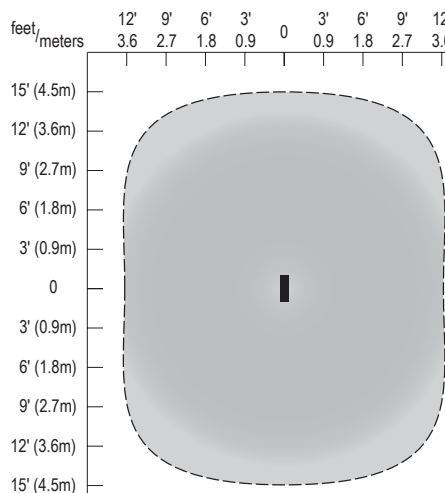

Figure 2. FS-505C coverage.
1. Install the FS-PP as directed in the installation instructions provided with the power pack. Review Figures 2, 3, and 11 in the instructions to determine appropriate load wiring to the FS-PP and Occupancy Mode Switch setting for the FS-505 or FS-505C.